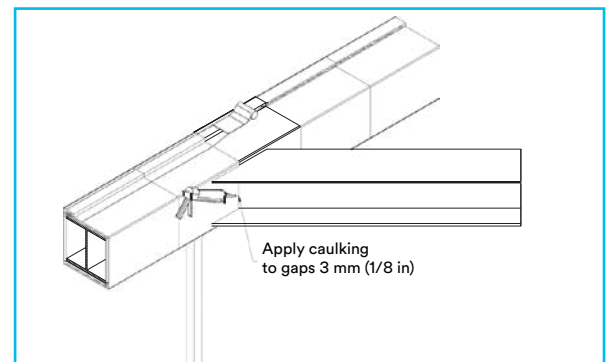

Figure 2
- 2 Secure E-Mat in place with filament tape. Note that the filament tape is for temporary hold only and therefore the amount of tape and spacing to be used is at the installer's discretion. Ensure E-Mat is covering the entire perimeter of beam. If there is a gap between the diagonal member and horizontal beam, E-Mat should cover the gap (*Figure 2*). If a gap of more than 3 mm ($\frac{1}{8}$ in) remains between installed sections of E-Mat, the gap is to be filled to the full depth of the E-Mat with the 3M™ Fire Barrier Water Tight Sealant 3000 WT. The perimeter and overlap seams of E-Mat are to be covered with 3M™ Aluminum Foil Tape 437 100mm (4 in).